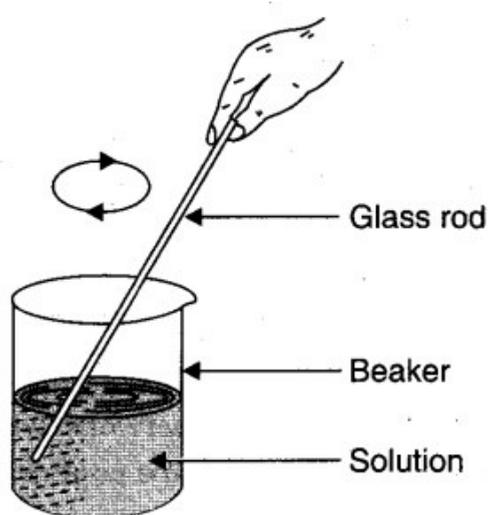

Fig. 5.1. Stirring with a glass rod.
2. Add distilled water (25-30 ml) and stir contents gently with the help of glass rod giving circular motion as shown in Fig. 5.1.